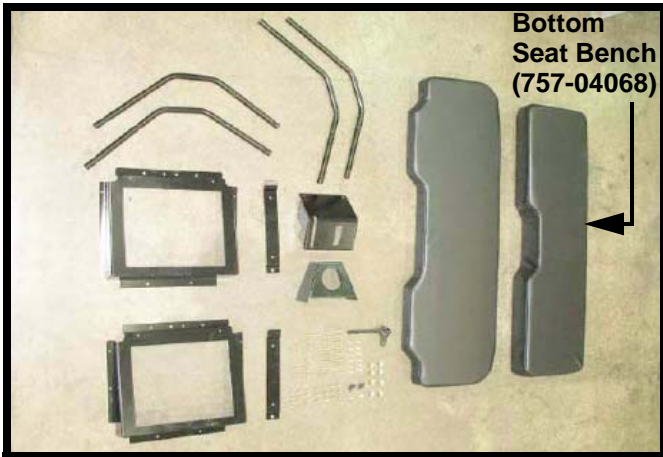

FIGURE 2
1. Locate the bottom seat bench (757-04068) from the optional Accessory / Attachment (39A70003100) Volunteer Utility Vehicle Bench Seat. See Figure 2.